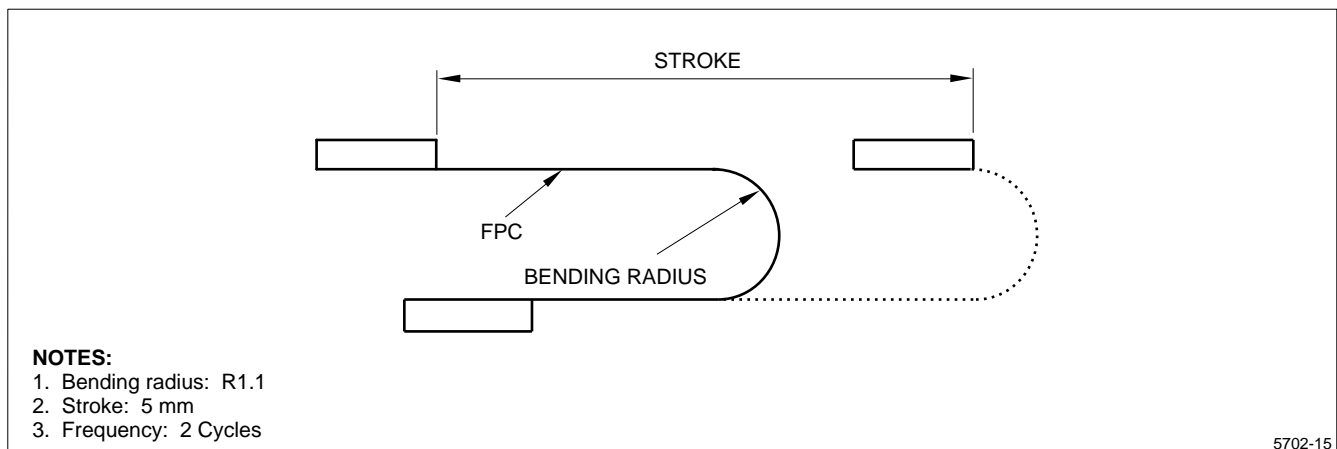

Figure 10. IPC Test
- Figure 10: IPC test – 100,000 cycles